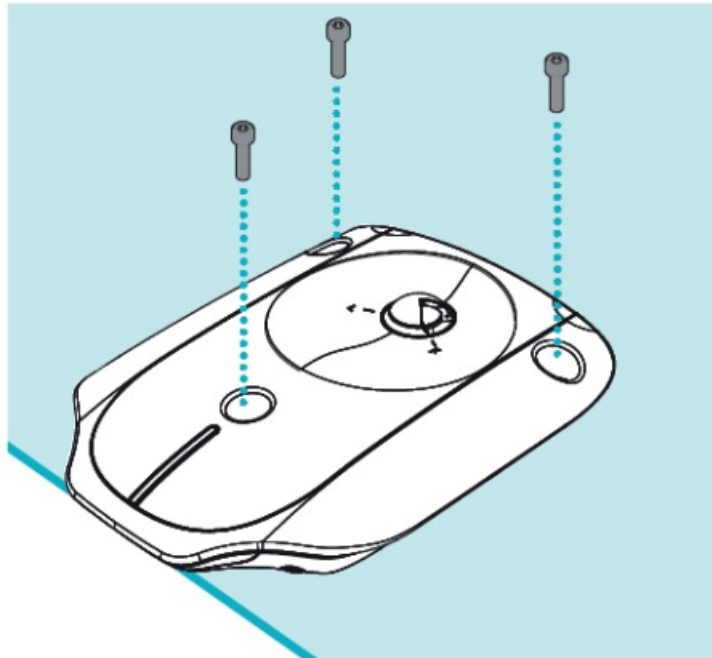

Abb. 4: Mounting the LOGIClink
3. Use the screwdriver and Mounting Screws to attach the LOGIClink to the Table Top at the marked drilling points (Fig. 4).